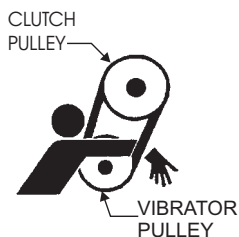

**Figure 19. Engine Air Filter and Element**
2. To clean or replace air filter loosen the wing nut on the air filter housing (Figure 19) remove the cover and take out air filter cartridge. If only cleaning of the air filter is desired blow through the air filter cartridge from the inside, moving a jet of dry compressed air up and down until all dust is removed.